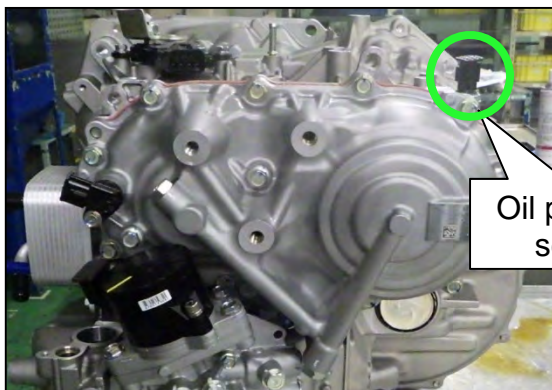
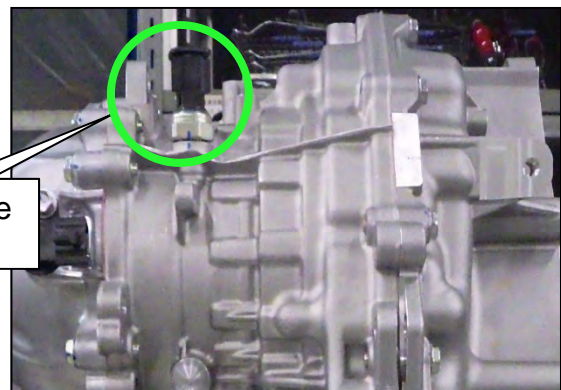

Figure 56
Figure 57
34. Remove the oil pressure sensor from the CVT (Figure 56 and Figure 57).